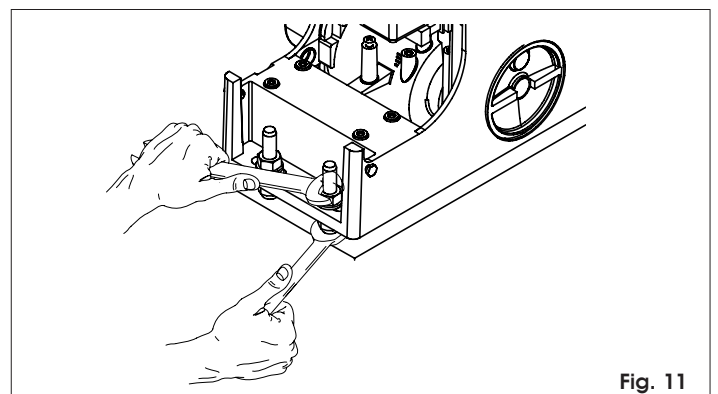

Fig. 11
- 4) Secure the gearmotor to the foundation plate, tightening the nuts as in Fig.11.